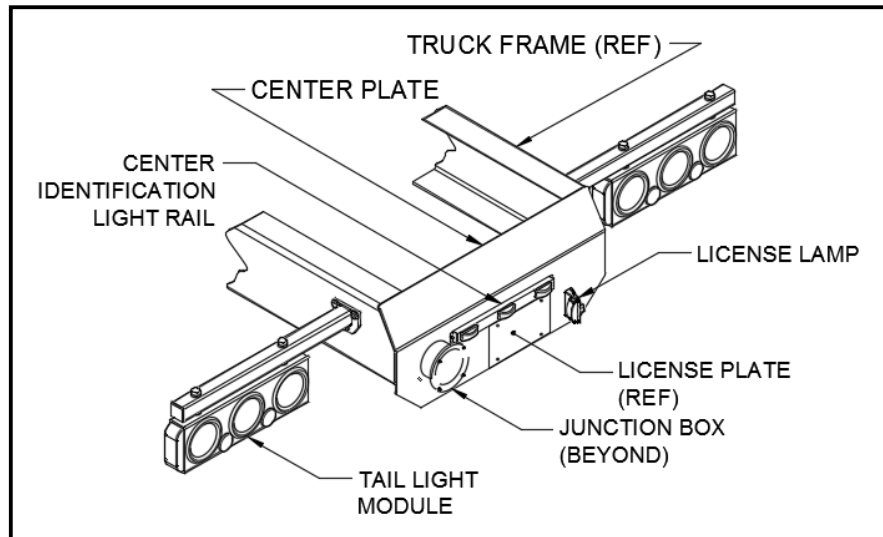
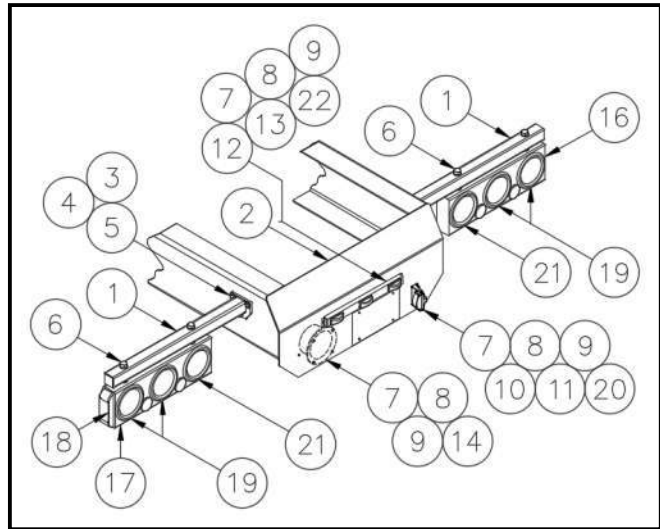

Figure 2
Figure 3
3. Position center plate [Part No. 63H08] on the rear of the main frame. Weld center plate to truck frame (See Figure 2 & Additional Notes).
5. Attach the tail light module to the stub light bar weldments with the fasteners provided (See Figure 3).
6. Mount the identification light bar at top center of the center plate [Part No. 63H08] using the fasteners provided (See Figure 3).
7. Mount license lamp right of the license plate (See Fig. 2) using the fasteners provided (See Figure 3).
8. Mount junction box on the back left side of center plate (See Figure 2), using the fasteners provided (See Figure 3).